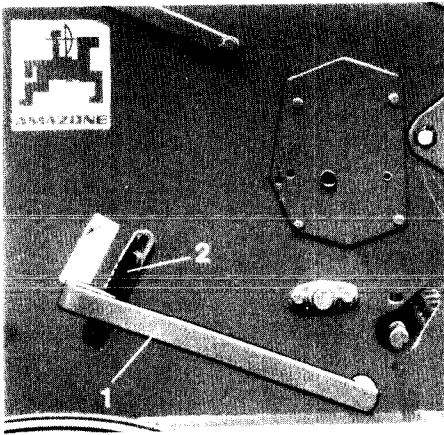

Fig. 1
- Bring bottom flap setting lever (Fig. 1/1) at the resting plate (Fig. 1/2) into position "1".